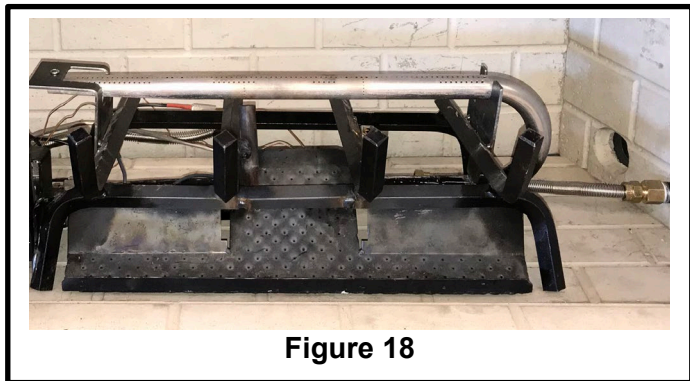

Figure 18
7. Attach the flex connector to the adapter as shown in Figure 18. Tighten securely. IF FLEX LINE IS NOT LONG ENOUGH, LONGER FLEX LINES CAN BE PURCHASED AT YOUR LOCAL HARDWARE STORE.